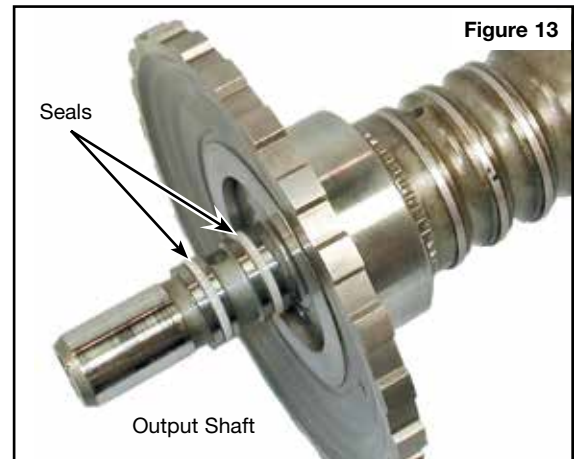

Figure 13
- Remove and discard the OE seals on the output shaft and replace with the Sonnax seals as shown (Figure 13).